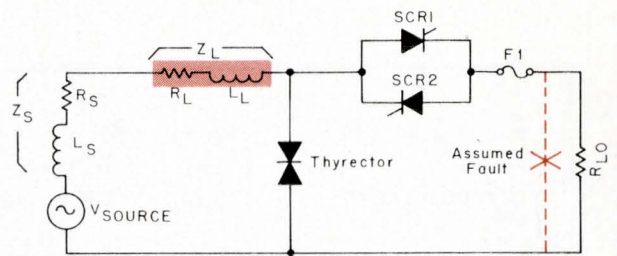
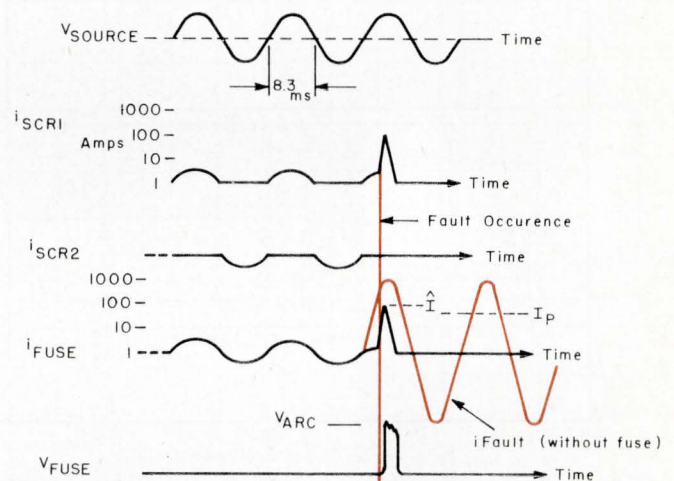
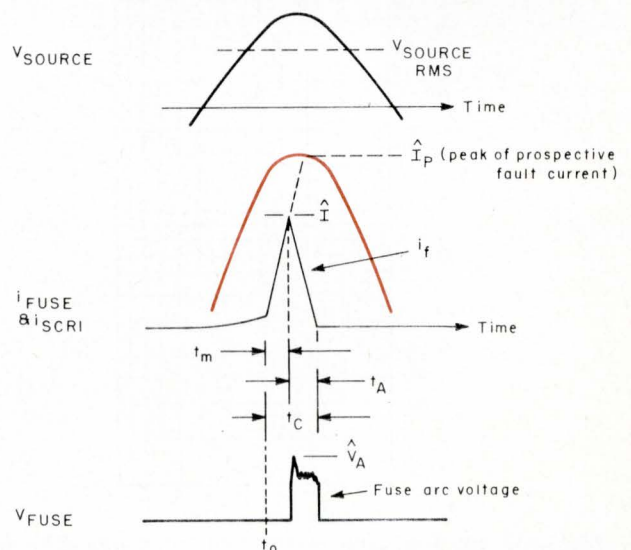

Fig. 1: Typical fuse-SCR circuit.
Fig. 2: Circuit waveform (of Fig. 1) under steady state and typical transient fault conditions.
Fig. 3: Circuit waveforms during fuse clearing interval. This figure presents a close-up of the fuse action shown in Fig. 2.
Before setting down a set of logical design steps let's look at a typical fuse-SCR circuit (Fig. 1). To define terms and become acquainted with the waveshapes in the circuit, assume a fault across the load resistance R_{LO} . In Fig. 2, this fault is shown taking place close to the instant of peak source voltage. It can occur at any point of the source voltage waveform but I chose this point because it is the most stringent for the fuse to interrupt under large prospective fault current conditions and high circuit X/R ratios.
Since this energy must be absorbed by the fuse in its arcing phase it serves as an indication of the severity of the current quenching duty placed upon the fuse. Fig. 3 shows a close-up of the fuse action shown in Fig. 2.
Referring back to Fig. 1, assume the following problem: You must select a fuse/SCR combination in a 480 V rms circuit with a 20 A rms load. Furthermore, the fuse must protect the SCR if a fault occurs across the load.
To illustrate the analytical approach, let's assume a 100 kVA 5% impedance transformer as the voltage source for the example of Fig. 1. Furthermore, the impedance of the primary source feeding the transformer and secondary cable runs will be assumed negligible. Then the transformer is the sole remaining source of circuit current limiting and its impedance may be calculated:
6) Change of circuit constants enables selection of different fuse rating. If a larger fuse is desired or conversely if the load current is increased to 25 A, then the circuit I_p must be reduced below 2 kA if the SCRs are to be protected under all possible short circuit conditions. The necessity for the reduction in I_p can be seen by a glance at Fig. 8. The next size larger fuse from a 25 A value is a 30 A rating. The 30 A curve crosses the SCR rating curve slightly below the intersection of the SCR curve and the prospective current curve of 2 kA. Values above 2 kA show the fuse let-through currents exceeding the maximum allowable SCR current thereby not guaranteeing SCR protection. This reduction in I_p needed to accommodate the 30 A fuse can be accomplished by adding additional impedance in the circuit as shown by R_L and L_L of Fig. 1. If again the added Z is assumed to be purely reactive a current limiting L of 400 μH would be needed. This, then, would allow you to use a 30 A fuse. This limiting reactor would serve double duty, for in addition to limiting the fault current, it would act to minimize RFI and in conjunction with a Thyrector would aid in clipping voltage transients.